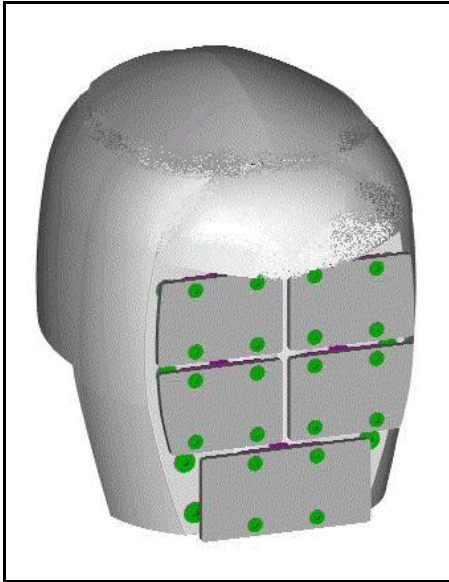

Figure 3.5- Load cell plates attached to load cells.
3. Install the respective load cell plates (T1FCM112, T1FCM113, T1FCM114, T1FCM115, & T1FCM116) onto the face load cells using four #6-32 x 3/8" FHSCS {5/64} per plate. Each load cell plate is shaped differently to match the contour of the front of the head casting. The load cell plates are labeled, "l-eye, r-eye, l-cheek, r-cheek, and chin according to the location on the face, that the load cell plates should be attached. **Figure 3.5** is an illustration of the attachment of the load cell plates to the face load cells.